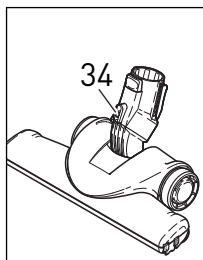

Figure 6
The vacuum can be stored with the canister in a horizontal or vertical position (figures 6, 7 & 8). The Parquet brush, Kombi nozzle and Turbo nozzle have a parking tab located on the front of the neck (34). Insert the parking tab into the upper side of the parking groove (18 or 22) and slide down firmly. For vertical storage, or for easy carrying, use the parking groove on the underside (18). For horizontal storage, use the parking groove on the end of the canister (22).